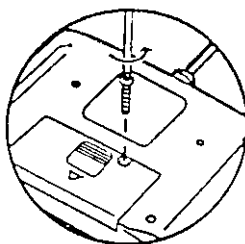

Figure 1
Removal of the battery cover requires a "phillips head" screwdriver. See Figure 1. After removing this screw, slide the cover downward to remove. Place the 9V battery in position so that the (+) and (-) are in the proper alignment as marked inside the battery cover. See Figure 2. Replace screw to battery cover.
1. Assemble as Figure 1. It is easier to assemble the tracks upside down. You can see better the system. Assemble the layout as Figure 2. You can see better the system. Assemble the layout as Figure 2.